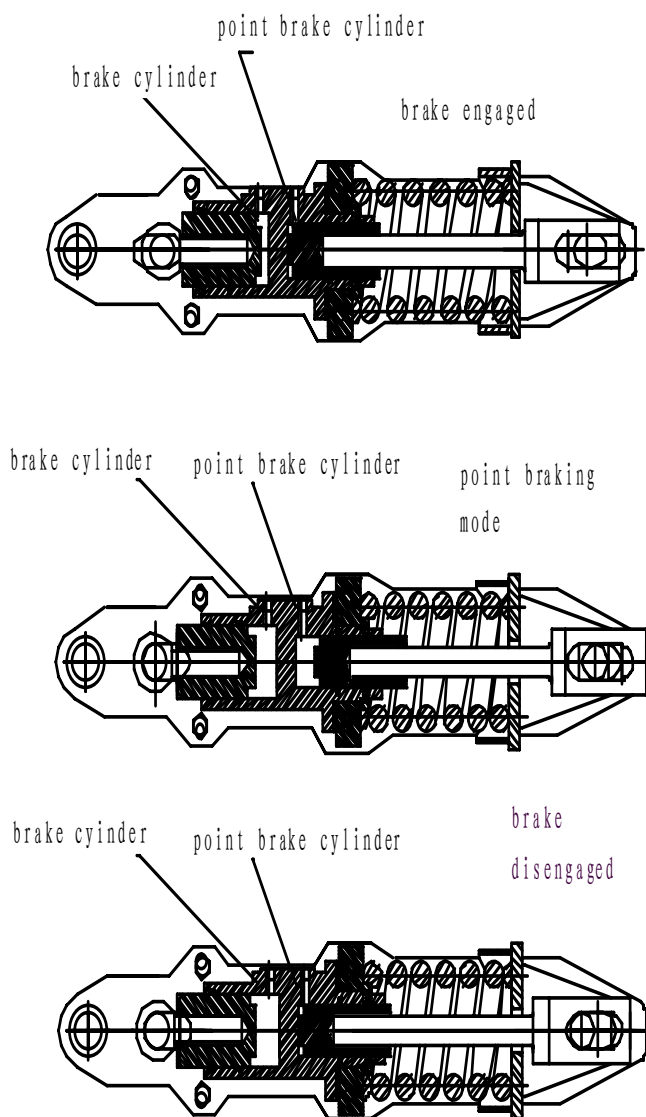

Fig. 6-6
6.4.2 Adjustment of brake spring, see Fig. 6-6 below: